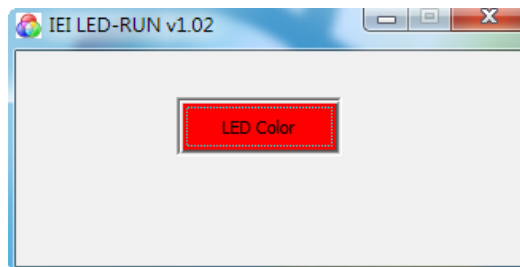

Figure 2-15: iEi LED RUN Software
Step 2: Double click the **LED-RUN.exe** icon  to open the LED RUN software, as shown in **Figure 2-15**.